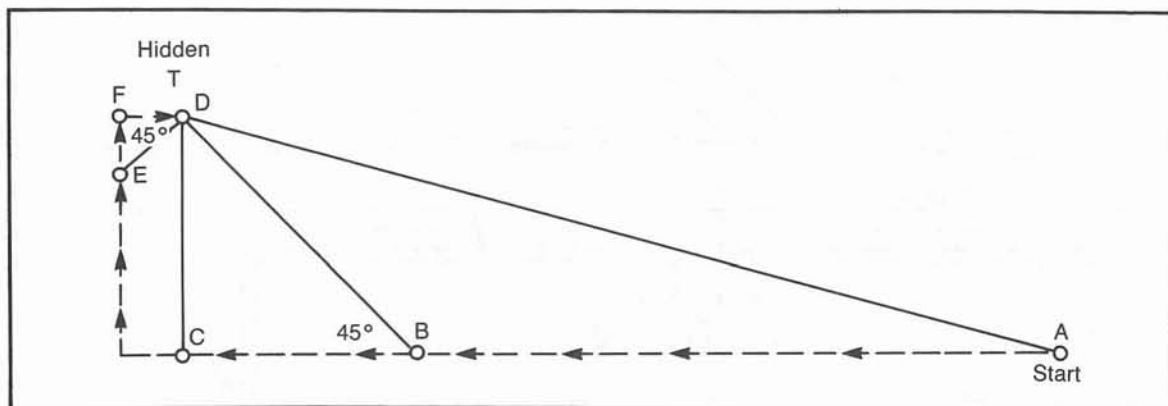

Fig. 3-5. Estimating the distance to a hidden transmitter using the "45-90" method.
The "45/90" technique is an extension of the stair-step method. It uses the geometric principles of right triangles to help hunters estimate how close they are getting to the hidden T. As we set out on our course, shown in Fig. 3-5, at point A the bearing is nearly in front of us. The indicator shows 15 degrees to the right. We continue straight ahead, watching carefully for the point where the bearing is exactly 45 degrees right. When we reach that point (B), we note the odometer reading and continue without turning.